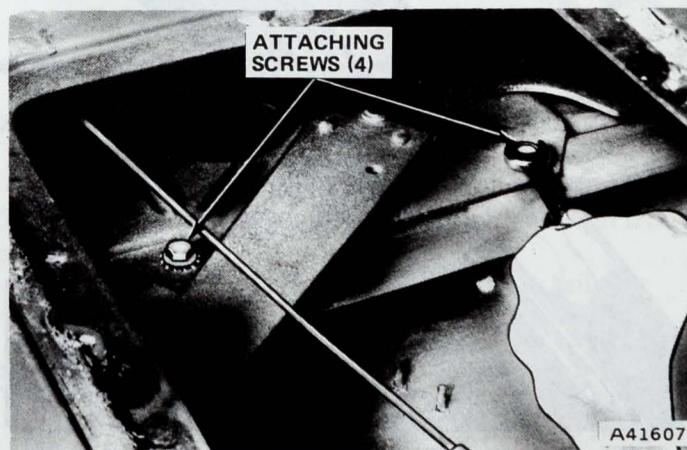

Fig. 3H-18 Regulator Attaching Screws
- (1) Remove tailgate trim panel.
- (2) Remove access hole covers.
- (3) Loosen regulator attaching screws (fig. 3H-18).